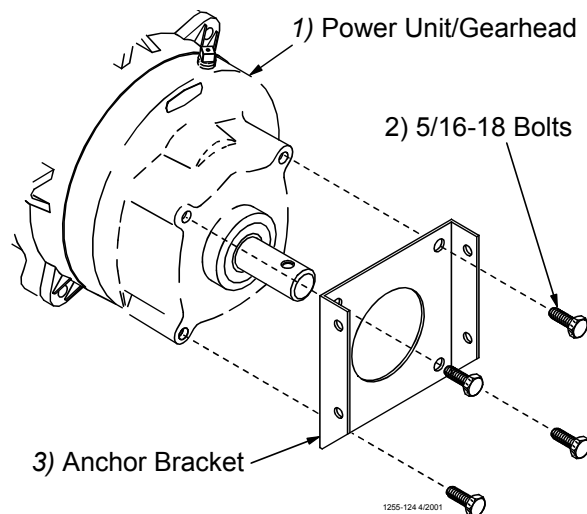

Figure 47. Assemble the Anchor Bracket to the Power Unit/Gearhead
3. Install the Anchor Bracket to the Power Unit/Gearhead, as shown in **Figure 47**, with the included 5/16-18 Bolts.